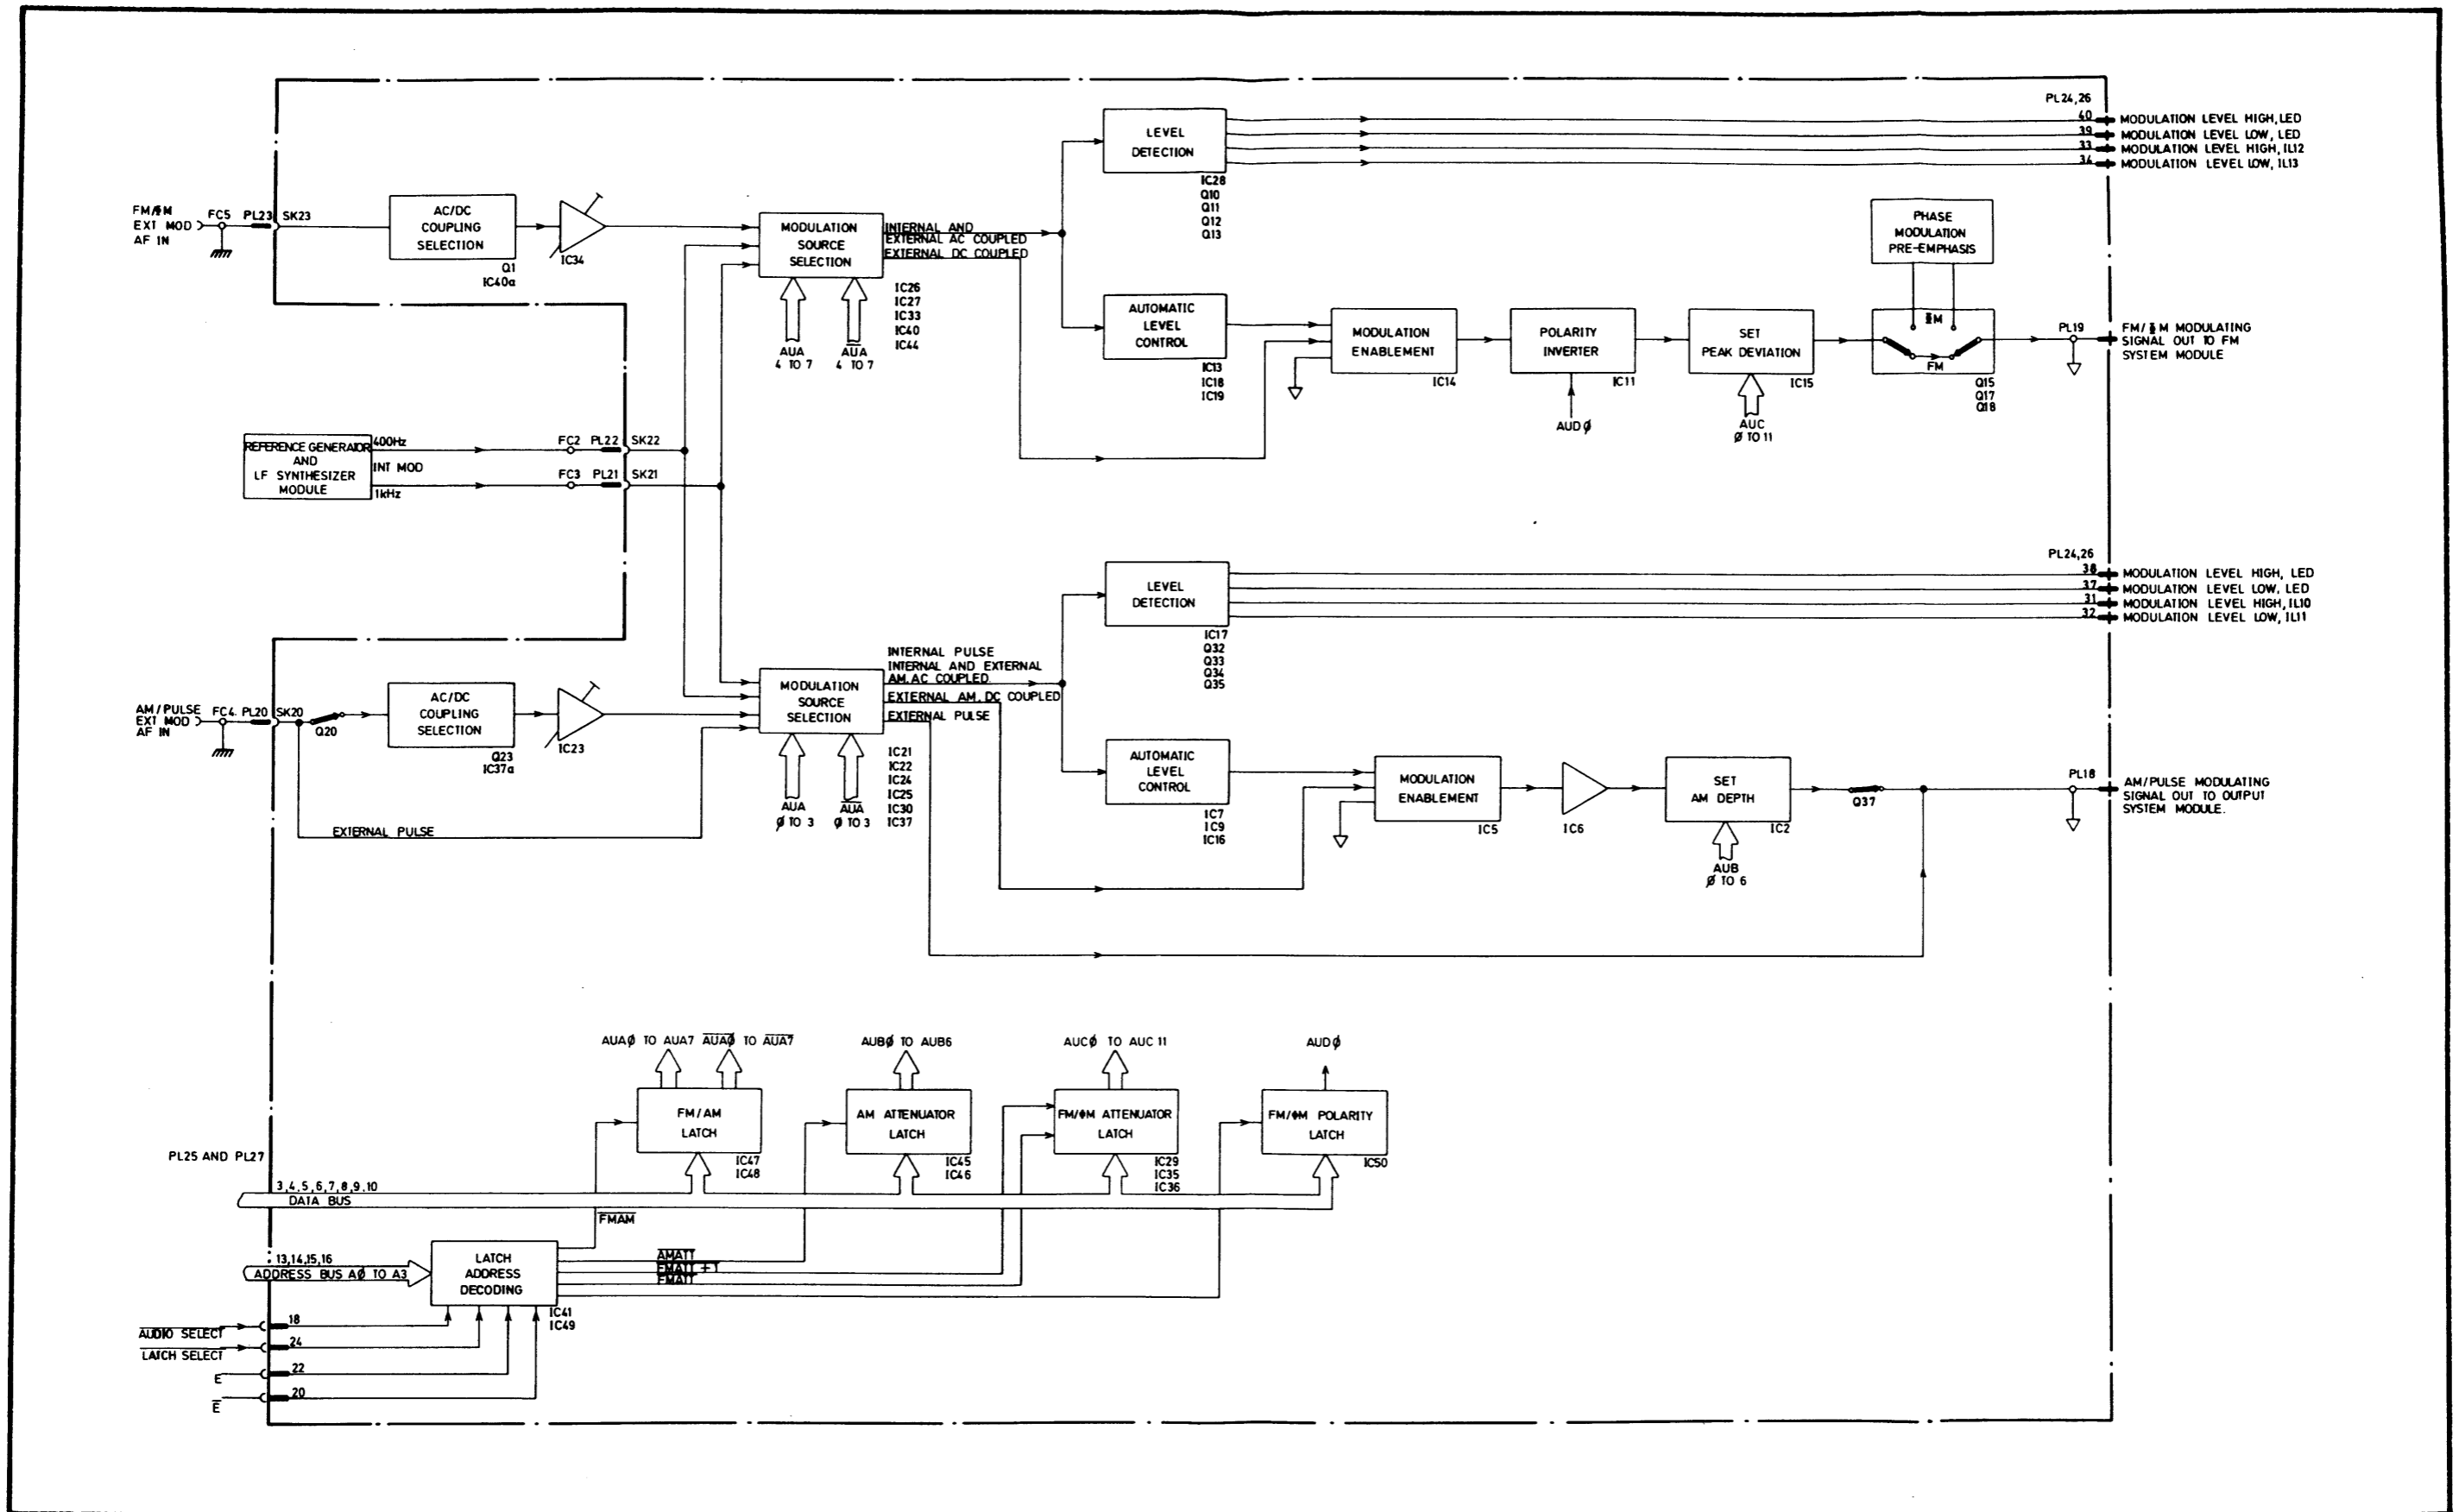

Fig. 6.2. Audio System Assembly 19-1048
6.5.2.1.2 The general functioning of the system is illustrated in the block diagram, Fig. 6.2. The complete circuit is shown in Fig. 8 in Section 8 of this manual. From the block diagram it will be seen that the system comprises two similar signal processing channels and a control channel.